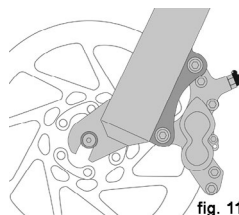
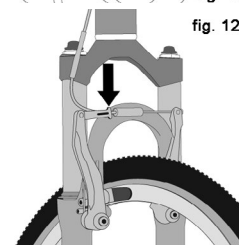

fig. 11
fig. 12
- (1) If your bike has rim brakes, disengage the brake's quick-release mechanism to increase the clearance between the tire and the brake pads (See Section 4.C fig. 11 through 15).
- (2) If your bike has rim brakes, disengage the brake's quick-release mechanism to increase the clearance between the wheel rim and the brake pads (see Section 4.C, figs. 11 through 15).
- (3) On a derailleur gear system, pull the derailleur body back with your right hand.
- (1) If your bike has rim brakes, disengage the brake's quick-release mechanism to open the clearance between the tire and the brake pads (see Section 4.C, figs. 11 through 15).
- (2) Using a correct size wrench, loosen the two axle nuts.
- (3) If your front fork has a clip-on type secondary retention device, disengage it and go to the next step. If your front fork has an integral secondary
- (2) Shift the rear derailleur to high gear (the smallest rear sprocket) and pull the derailleur body back with your right hand.
- (3) Using the correct size wrench, loosen the two axle nuts.
- (4) Lift the rear wheel off the ground a few inches and, with the derailleur still pulled back, push the wheel forward and down until it comes out of the rear dropouts.
3. Some bicycle brakes, such as disc brakes (fig. 11) and linear-pull brakes (fig.12), are extremely powerful. Take extra care in becoming familiar with these brakes and exercise particular care when using them.
Most brakes have some form of quick-release mechanism to allow the brake pads to clear the tire when a wheel is removed or reinstalled. When the brake quick release is in the open position, the brakes are inoperative. Ask your dealer to make sure that you understand the way the brake quick release works on your bike (see figs. 11 through 15) and check each time to make sure both brakes work correctly before you get on the bike.